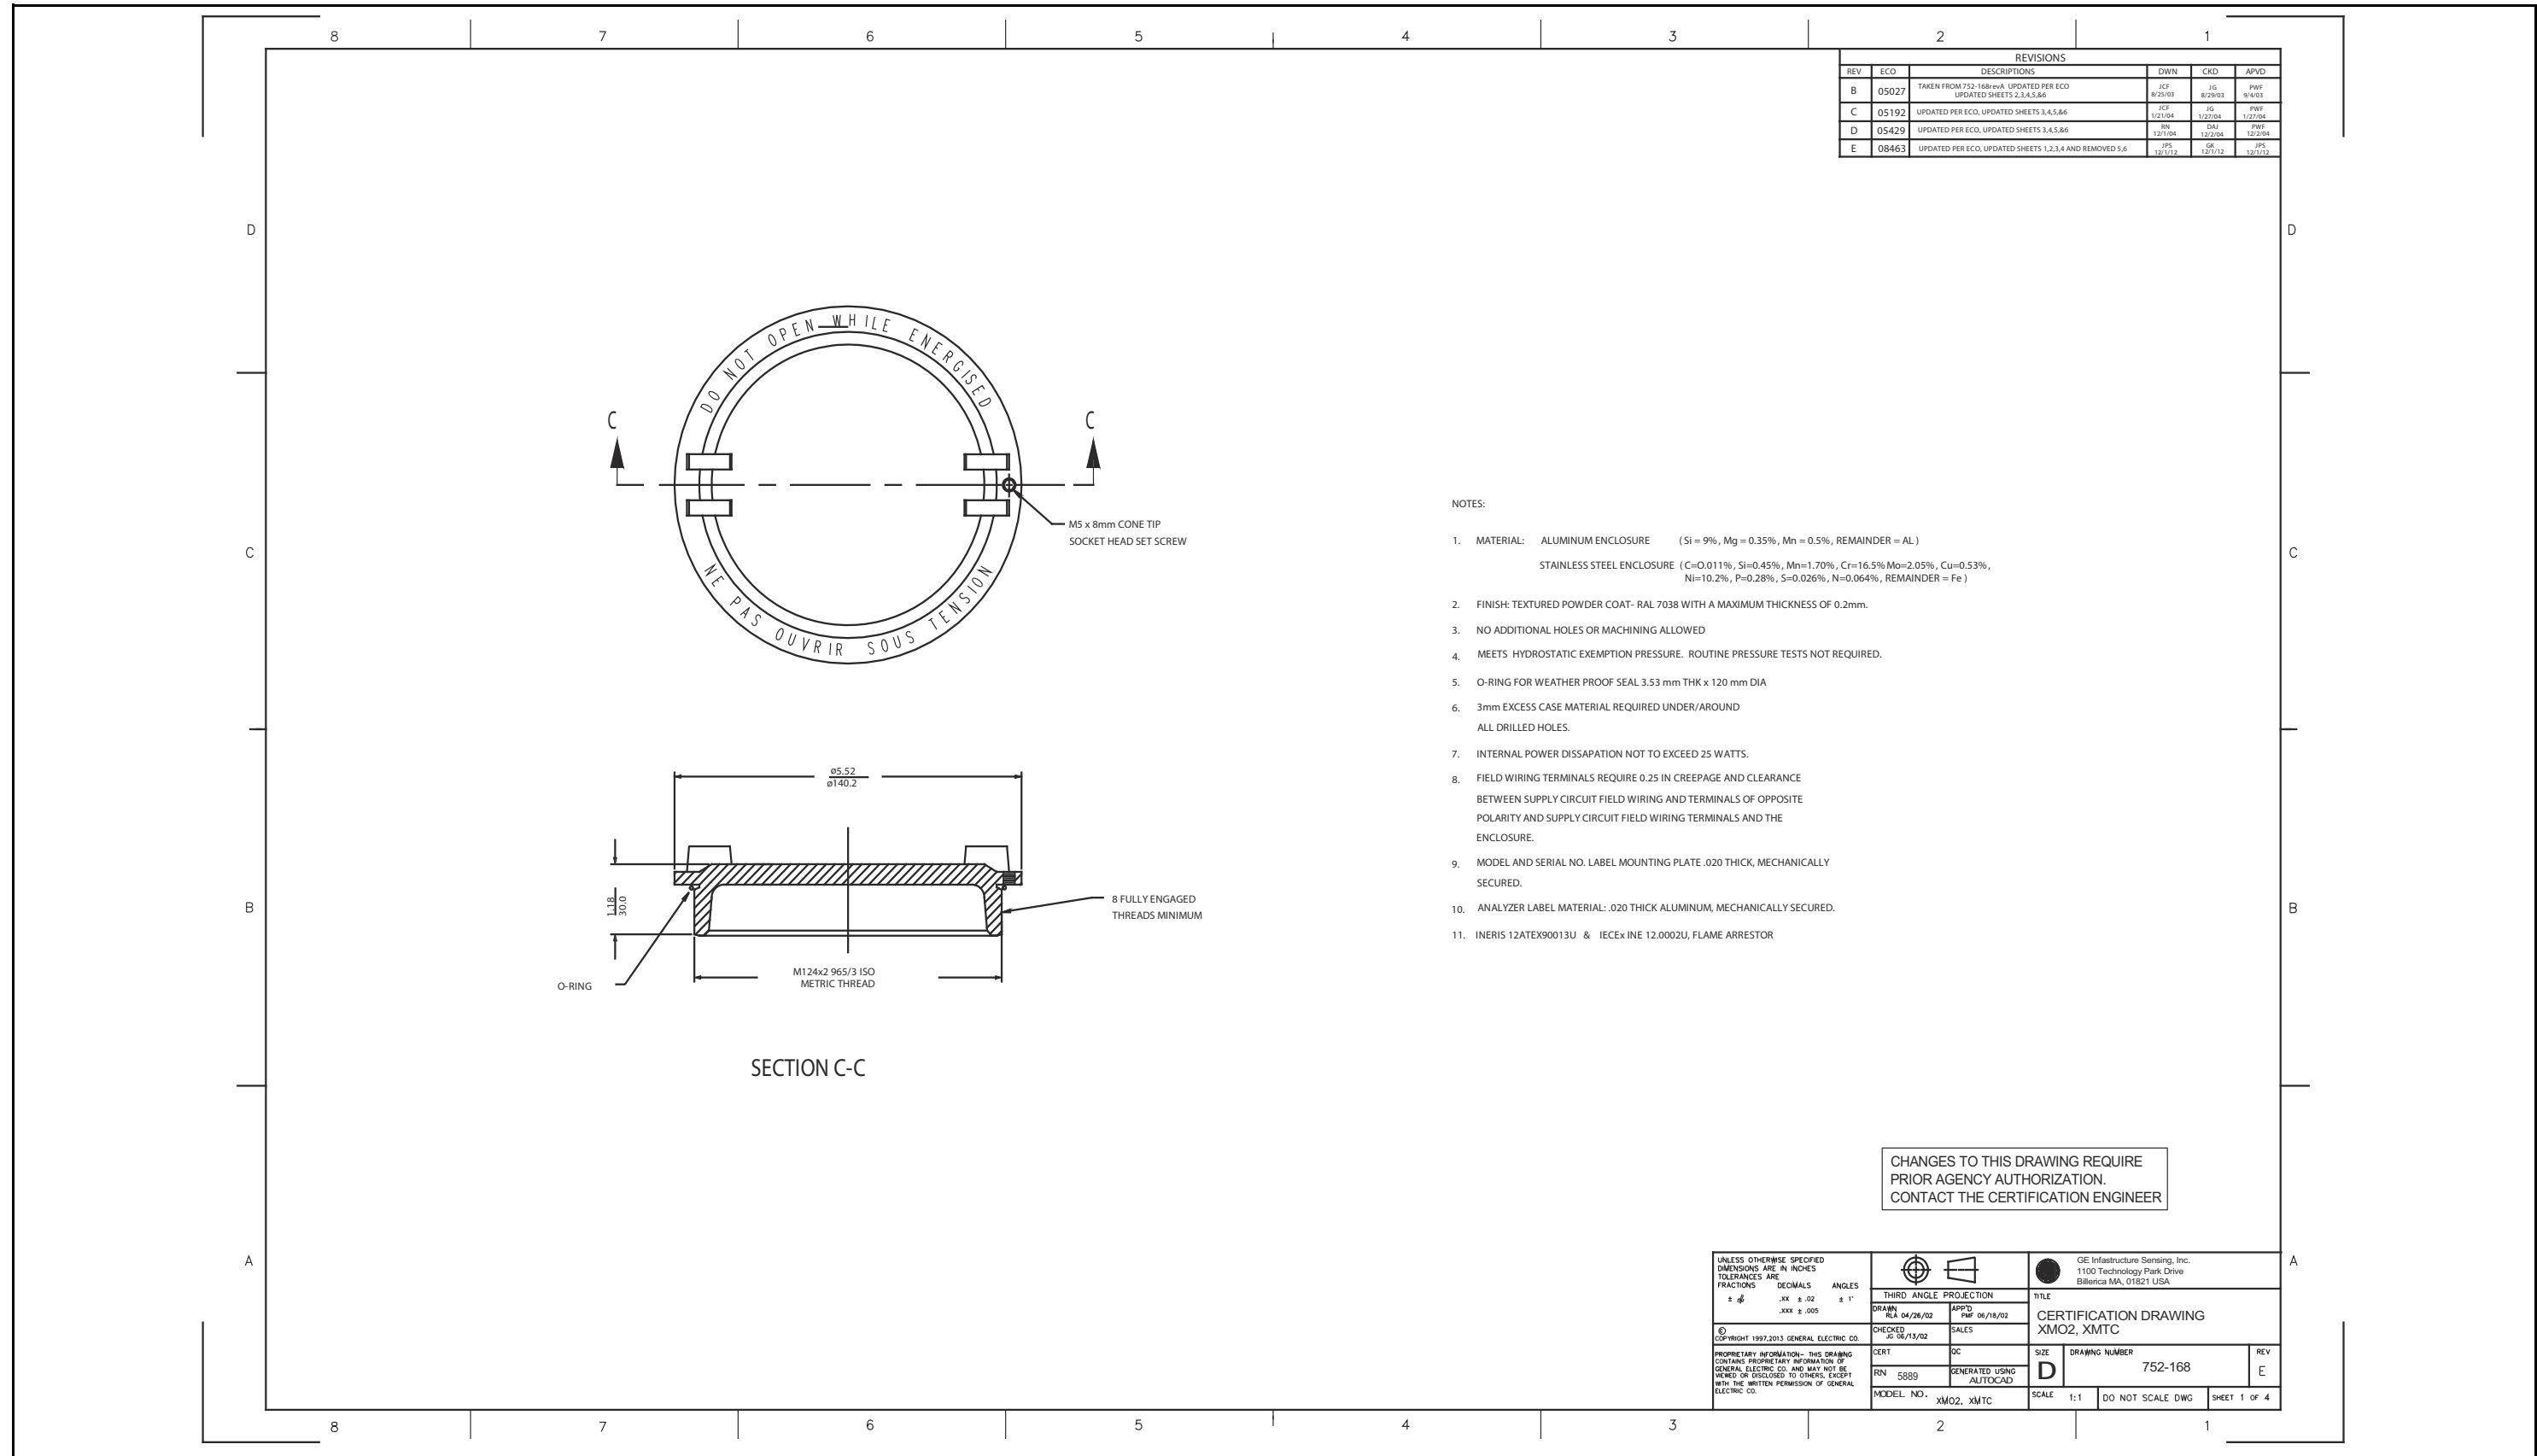

Figure 60: Certification Drawing (ref. 752-168, Rev. E. SH1)
- Figure 60, "Certification Drawing (ref. 752-168, Rev. E, SH1)," on page 71